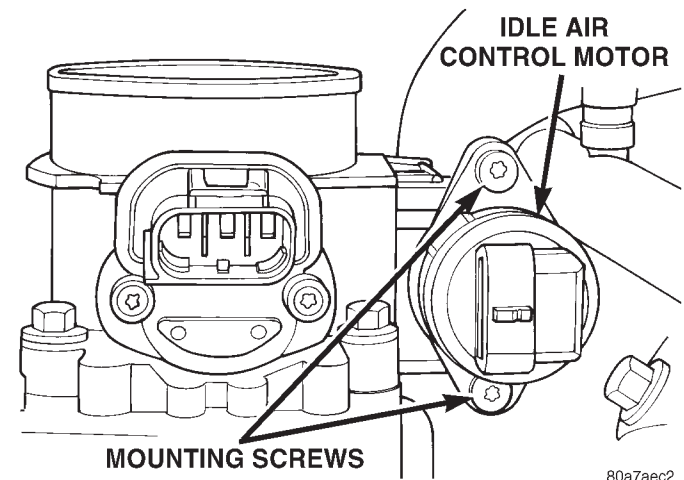

Fig. 41 Mounting Bolts (Screws)—IAC Motor
(1) Remove air cleaner tube at throttle body.
(2) Disconnect electrical connector from IAC motor.
(3) Remove two mounting bolts (screws) (Fig. 41).
(4) Remove IAC motor from throttle body.